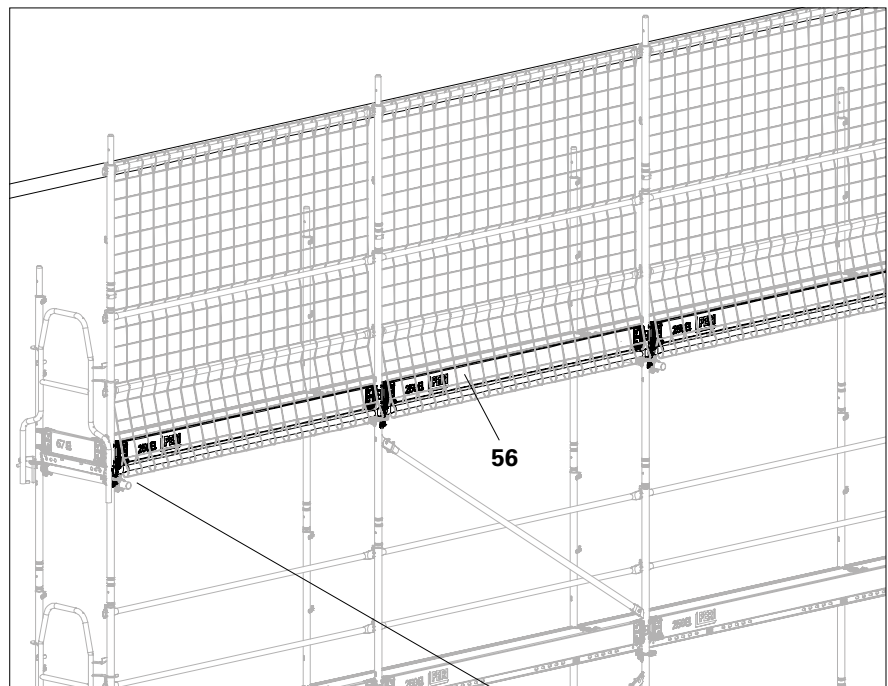

Fig. D2.03
- The protection panel is now installed. (Fig. D2.03)